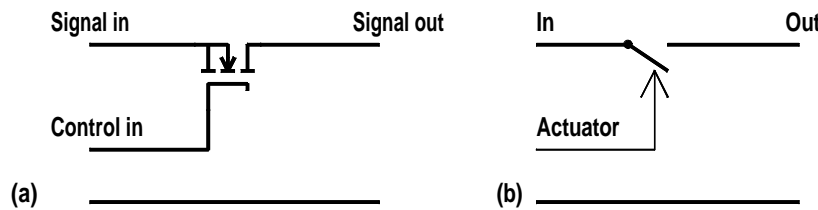

Figure 38.8: MOSFET analog switch.
38.1 The circuit in Figure 38.8 (a) shows an analog switch which uses an enhancement type MOSFET. The input signal can have any value in the range -5 V to $+3$ V. Calculate the output voltage for a load resistor of 10 k Ω when the control input is at -5 V and when the control input is at $+5$ V. The threshold voltage for the MOSFET is $+2$ V.
In this type of analog switch, the control is isolated from the signal which is being switched. The effective switch is shown in Figure 38.8 (b) and is connected between the input and output.